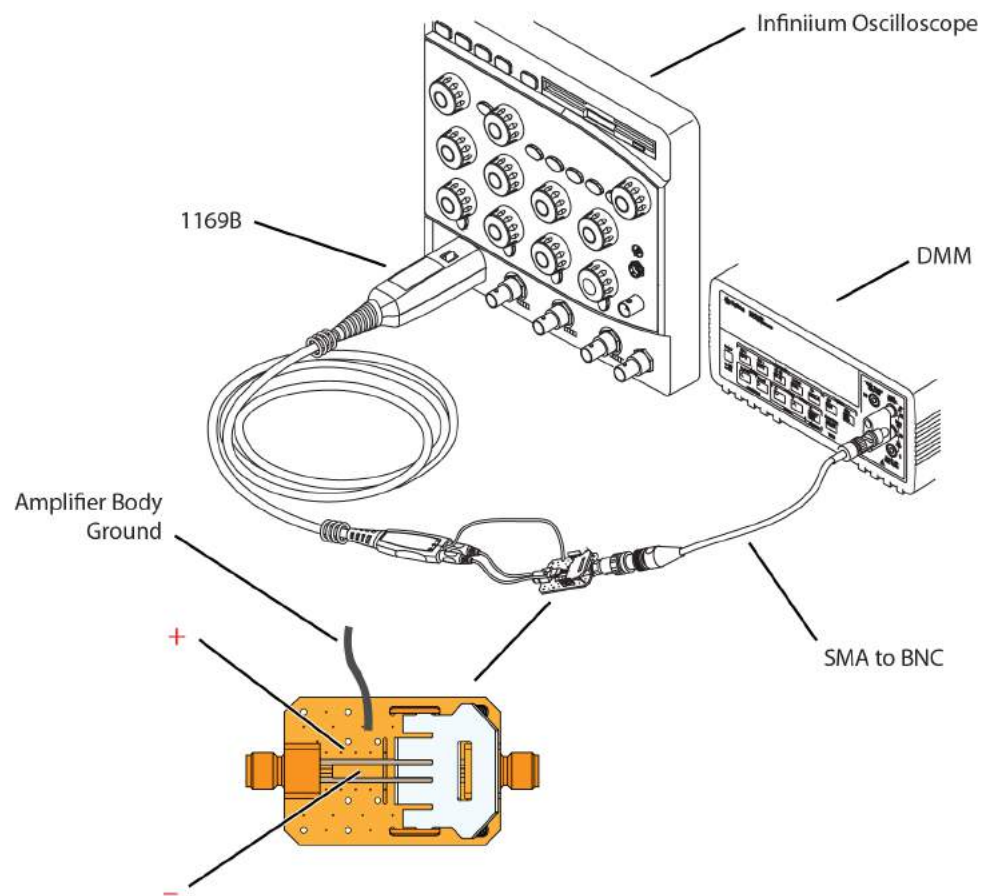

Figure 216 Probing Locations on PV Test Board for Differential Test
- 5 Connect the probe's amplifier body to ground on the PV/DS test board as shown in **Figure 216** on page 218.